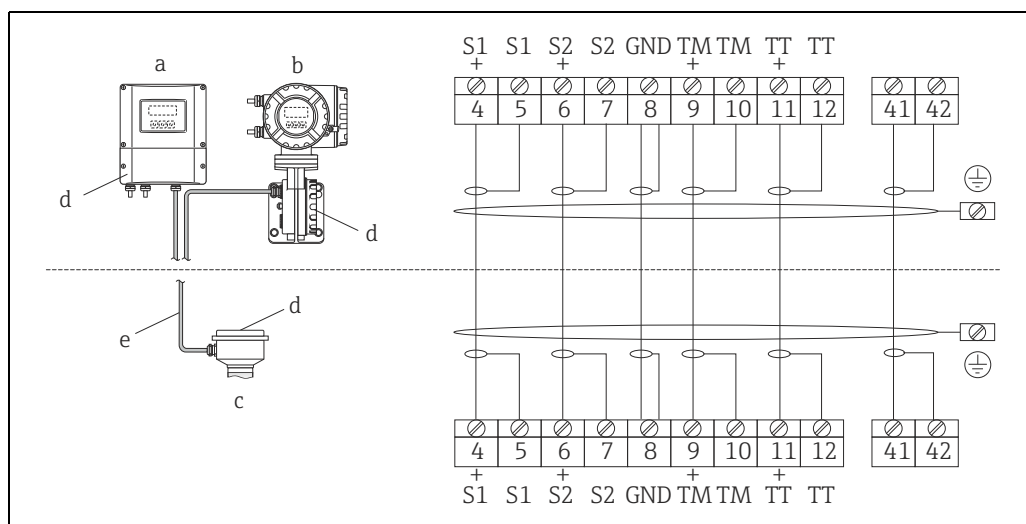

Fig. 13: Connecting the remote version
3. Establish the wiring between the sensor and transmitter in accordance with the wiring diagram (→ Fig. 13 or wiring layout in the screw cap).